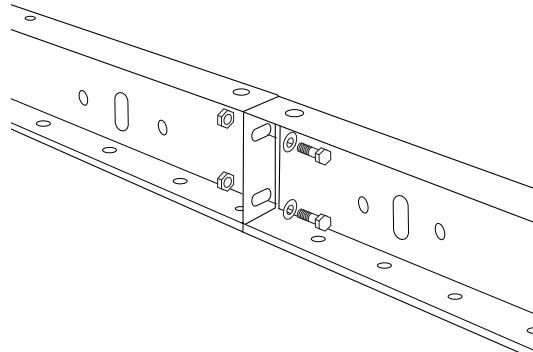

Figure 5
2. Fasten the bolts through the ends of both conveyor frames, using the same holes that they arrived in. (See Figure 5)